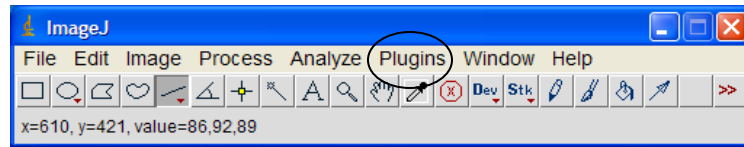

Fig. 3. The Image J window.
Fig. 3. The focused beam on YAG crystal. I_{pin} = 4461 (1mA/v) ; Total efficiency ~ 57%; vertical efficiency ~83% . The size (FWHM) is 10 (V) micron x 22 micron